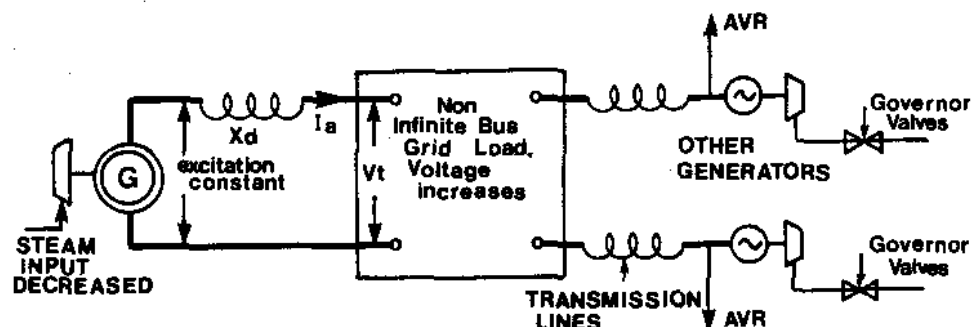

Figure 3: Generator feeding finite bus grid load.
- (c) As the armature reaction decreases, the generator becomes overexcited and the **terminal voltage will rise.** The amount the system voltage rises is again dependent upon other generators on the system having AVR's with the ability to correct this voltage change. It will also depend upon lines lengths and the load. Figure 3 shows the operational conditions.